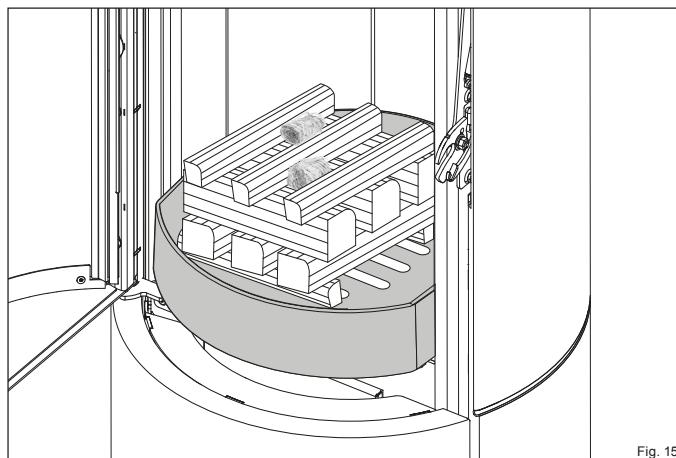

Fig. 15
- Place the logs in the middle of the grate in the firebox (Fig. 15):
- place the first 2 (2) at the front and back end of the grate opening, perpendicular to the firebox glass
- place the next 3 (1) on top of the first two pieces, parallel to the firebox glass
- the next 3 (1) across
- place the last 3 (2) lengthwise on top of this
- the kindling (3) in the middle between the top logs